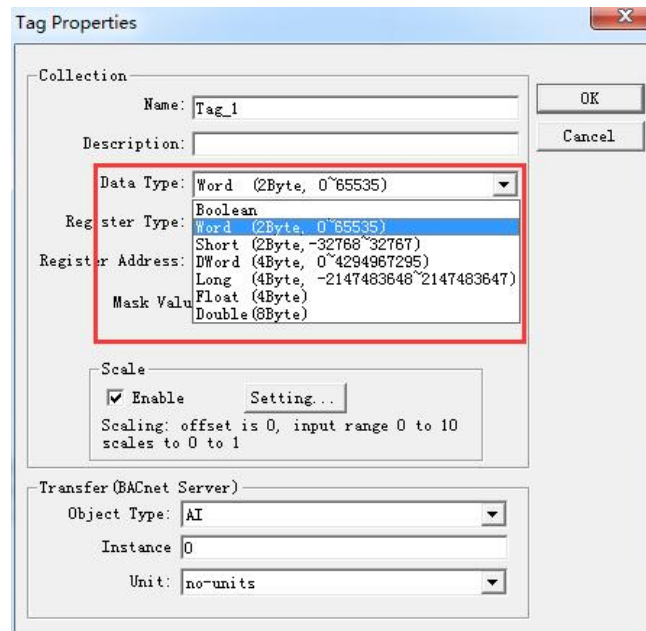

Figure 2-2-5 Date Type
- **Date Type:** Boolean\Word\Short\Dword\Long\Float and Double ,as the following Figure 2-2-5 shows.